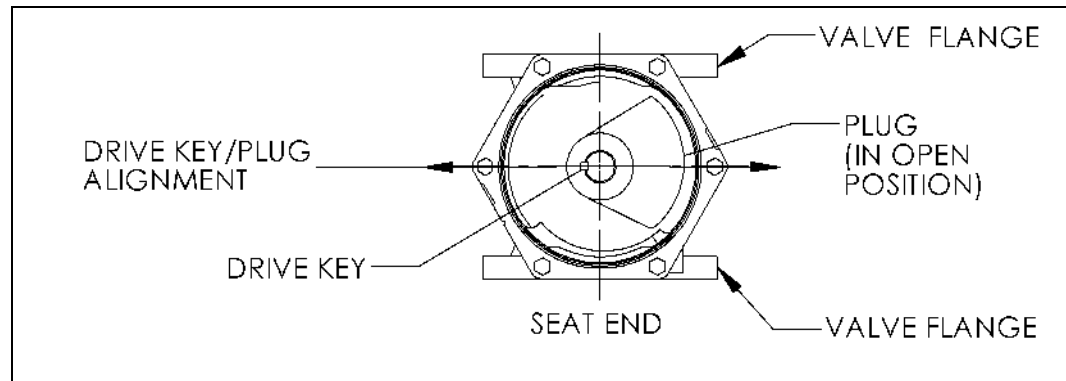

Figure 4— Valve Open Position
4. Turn the handwheel, chainwheel or 2" wrenching square operator so the drive key/plug alignment is parallel to the valve flanges. See Figure 4 for valve open position.